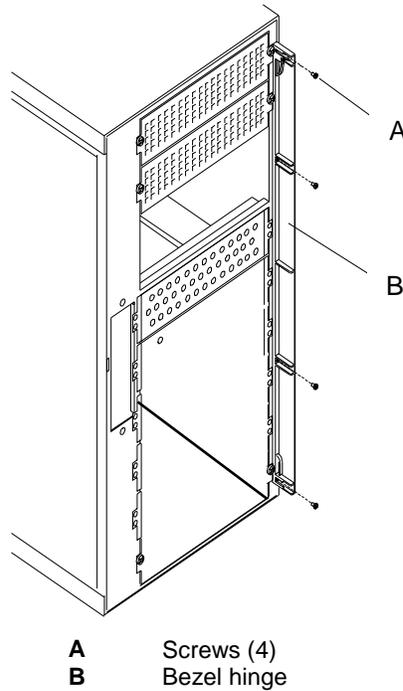

Figure 4-49. Removing the Front Bezel Hinge
5. Remove the four screws securing the bezel hinge to the chassis and remove the hinge. See Figure 4-49.